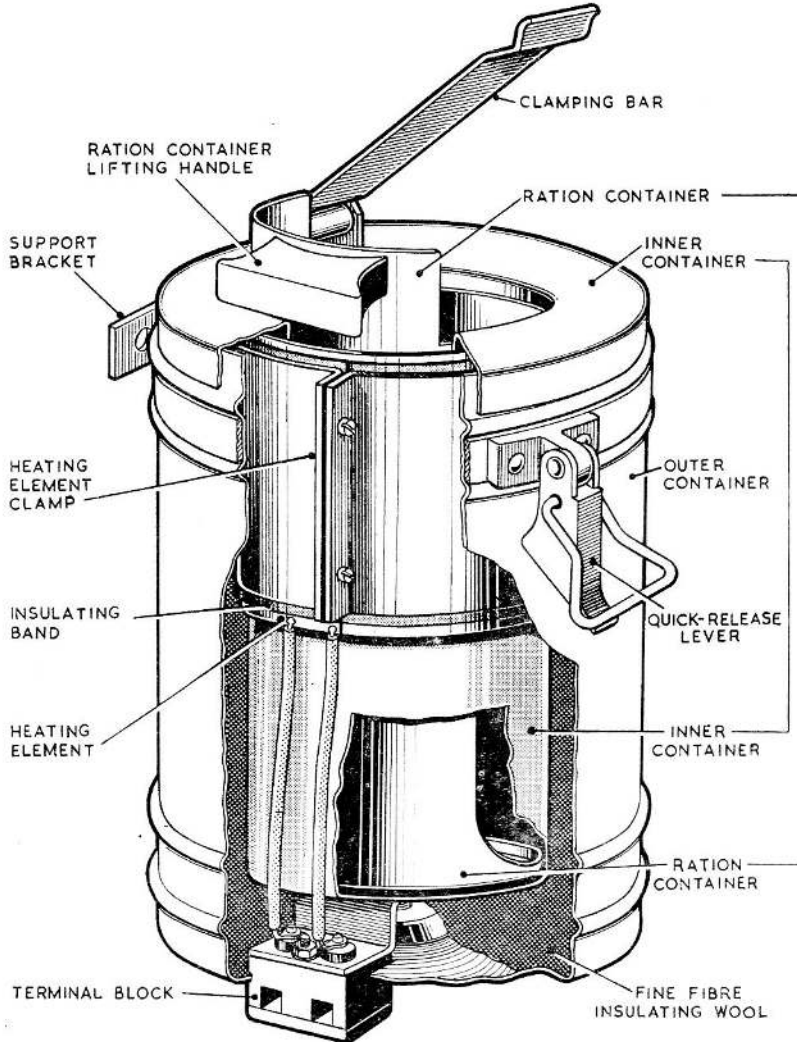

Fig. 1. Part cut-away view of the flight ration heater
2. The construction of the heater is illustrated in fig. 1. The ration container detachable to facilitate loading and unloading of the tins of rations; the inner container is detachable for cleaning purposes. The clamping bar, held by a quick release